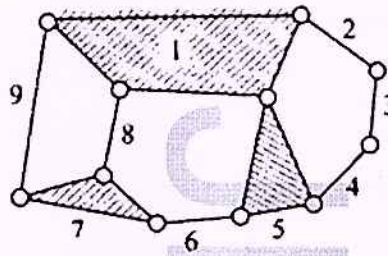

Figure 1
- 9 a) Explain elliptical trammel with a neat sketch. Prove that any point on the connecting rod traces an ellipse. (3)
- b) The ratio of width of the front axle and that of the wheel base of a steering gear mechanism is 0.5. At the instant the front inner wheel is turned by 18° . What should be the angle turned by the outer front wheel for perfect steering? (3)
- 10 a) Find out degrees of freedom of mechanism shown in Figure 1 (3)